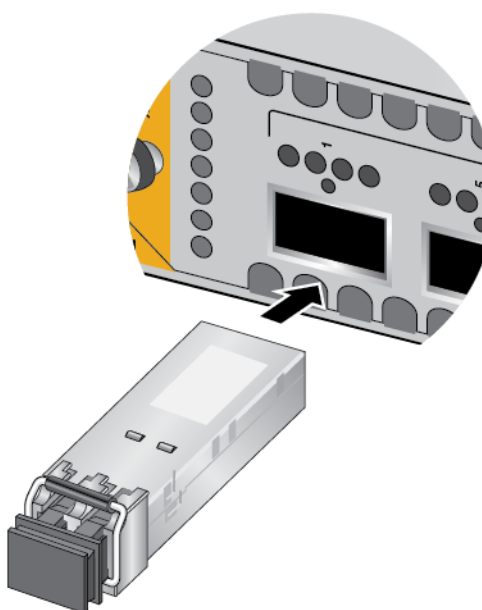

Figure 130. Installing 40Gbps Fiber Optic Transceivers in XEM2-4QS Line Cards
- ❑ 40Gbps transceivers in XEM2-4QS Line Cards - refer to Figure 130 on page 232.